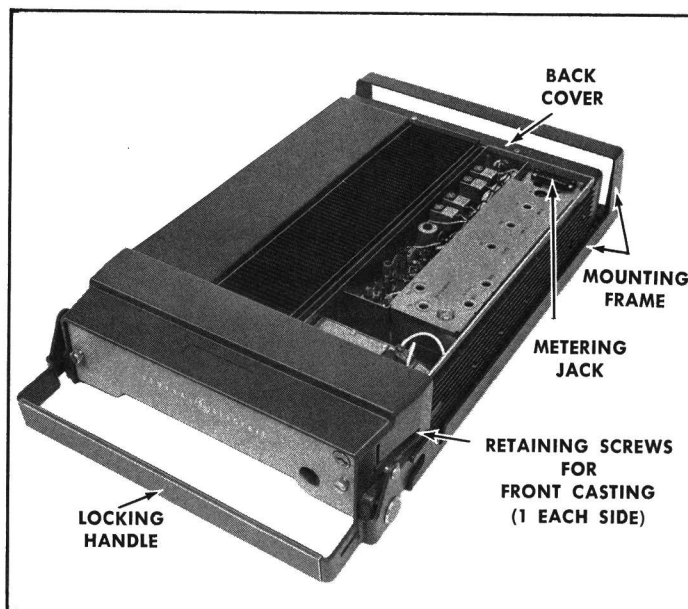

Figure 3 - Top Cover Removed
To service the transmitter from the top (Fig. 3):
1. Loosen the two retaining screws in the front casting (see Figure 3) and pull casting away from the system frame.